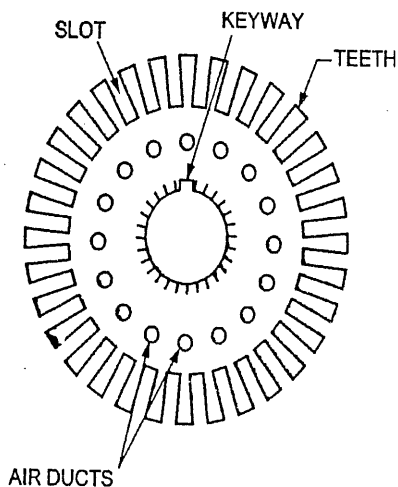

FIG. 4.28.7 : ARMATURE CORE LAMINATIONS
- At the outer periphery, slots are cut as shown in Fig. 4.28.7. The armature conductors (winding) are placed in these slots.